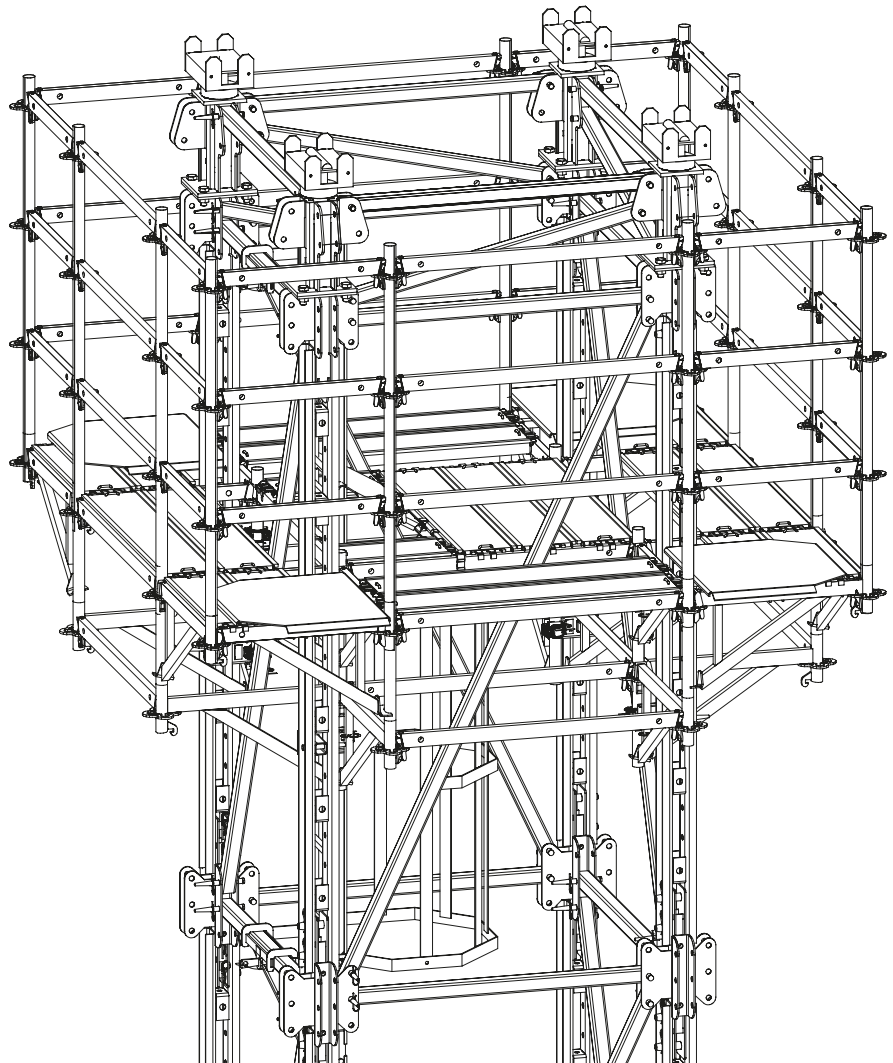

Fig. A1.38
1. Mount the missing side according to the current version of the PERI UP Instructions for Assembly and Use. (Fig. A1.38)